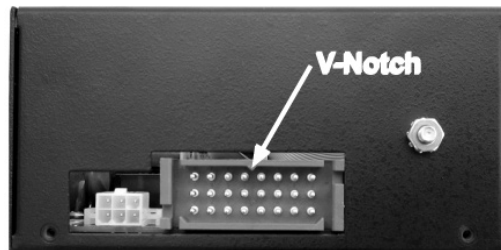

Figure 12 M-2001 V-Notch Orientation
2. Plug the blue connector of the M-2355B harness into the bottom of the M-2001 (Figure 12). If desired, bench testing may be performed at this time as described in Section 5.0, **Bench Test**.